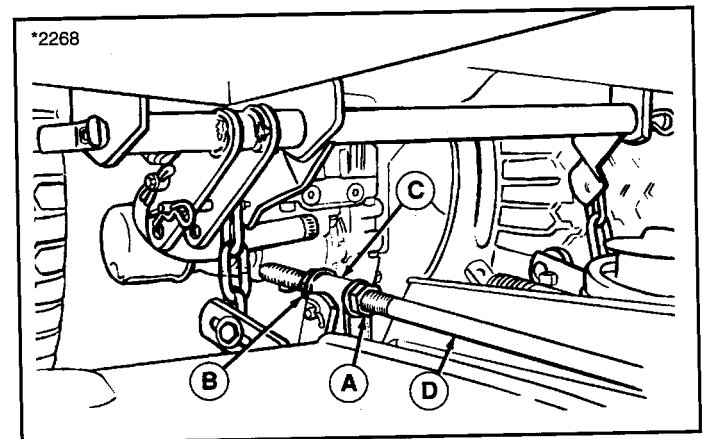

Figure 34. Leveling The Mower Front-To-Back
8. See Figure 34. To raise front of mower deck, loosen front nut (A) and turn rear nut (B) against bracket (C).
9. To lower front of mower deck, loosen rear nut (B) and bracket (C) will move backwards to lengthen rod.
10. Re-check measurement before tightening front nut (A) against bracket.